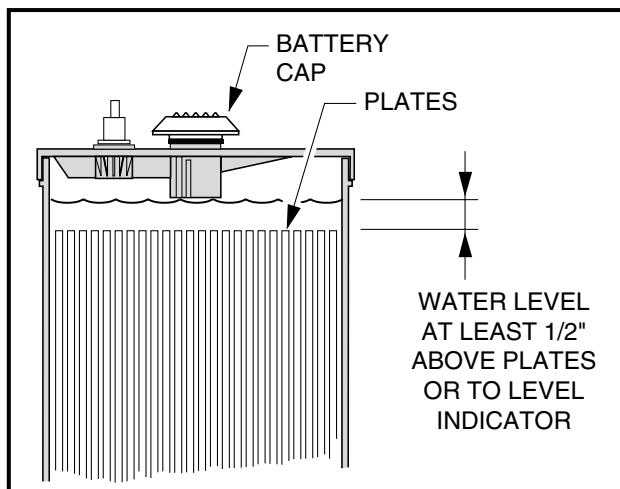

FIGURE 12-55
- Maintain proper water level **(See Water Level below, and Figure 12-55, Page 129)**.
The water level should be checked weekly to be sure water is at its proper level **(Figure 12-55, Page 129)**. Never allow the water level to fall below the tops of the plates because this will cause the exposed part of the plate to become permanently inactive. Check the water level more frequently in hot weather or when the battery becomes old.